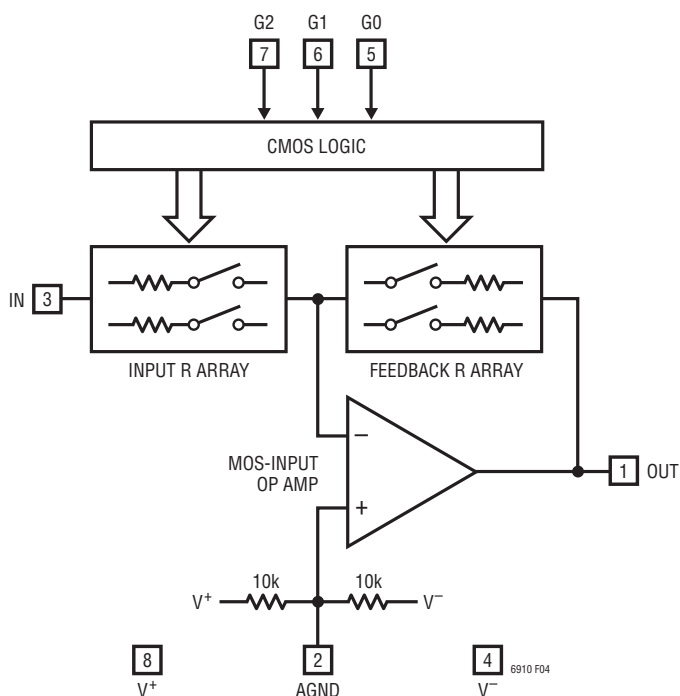
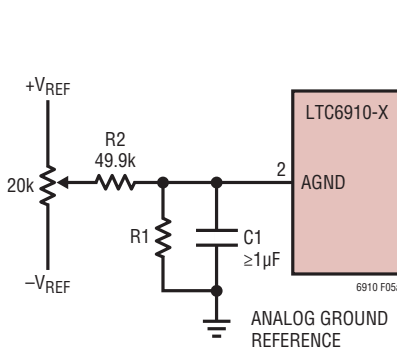

Figure 4. Block Diagram
Figure 5a. Offset Nulling (Dual Supplies)
**AGND (Pin 2):** Analog Ground. The AGND pin is at the midpoint of an internal resistive voltage divider, developing a potential halfway between the  $V^+$  and  $V^-$  pins, with an equivalent series resistance to the pin of nominally 5k $\Omega$  (Figure 4). AGND is also the noninverting input of the internal op amp, which makes it the ground reference voltage for the IN and OUT pins. Because of this, very “clean” grounding is important, including an analog ground plane surrounding the package.
**IN (Pin 3):** Analog Input. The input signal to the amplifier in the LTC6910-X is the voltage difference between the IN and AGND pins. The IN pin connects internally to a digitally controlled resistance whose other end is a current summing point at the same potential as the AGND pin (Figure 4). At unity gain (digital input 001), the value of this input resistance is approximately 10k $\Omega$  and the IN voltage range is rail-to-rail ( $V^+$  to  $V^-$ ). At gain settings above unity (digital input 010 or higher), the input resistance falls. Also, the linear input voltage range falls in inverse proportion to gain. (The higher gains are designed to boost lower level signals with good noise performance.) Tables 1, 2, and 3 summarize this behavior. In the “zero” gain state (digital input 000), analog switches disconnect the IN pin internally and this pin presents a very high
The LTC6910 family are small outline, wideband inverting DC amplifiers whose voltage gain is digitally programmable. Each delivers a choice of eight voltage gains, controlled by the 3-bit digital inputs to the G pins, which accept CMOS logic levels. The gain code is always monotonic; an increase in the 3-bit binary number (G2 G1 G0) causes an increase in the gain. Table 1, Table 2 and Table 3 list the nominal voltage gains for LTC6910-1, LTC6910-2 and LTC6910-3 respectively. Gain control within each amplifier occurs by switching resistors from a matched array in or out of a closed-loop op amp circuit using MOS analog switches (Figure 4). Bandwidth depends on gain setting. Curves in the Typical Performance Characteristics section show measured frequency responses.
Settling time in the CMOS gain-control logic is typically several nanoseconds and faster than the analog signal path. When amplifier gain changes, the limiting timing is analog, not digital, because the effects of digital input changes are observed only through the analog output (Figure 4). The LTC6910-X’s logic is static (not latched) and therefore lacks bus timing requirements. However, as with any programmable-gain amplifier, each gain change causes an output transient as the amplifier’s output
The electrical tables list DC offset (error) voltage at the inputs of the internal op-amp in Figure 4,  $V_{OS(OA)}$ , which is the source of DC offsets in the LTC6910-X. The tables also show the resulting, gain dependent offset voltage referred to the IN pin,  $V_{OS(IN)}$ . These two measures are related through the feedback/input resistor ratio, which equals the nominal gain-magnitude setting, G:
Offset voltages at any gain setting can be inferred from this relationship. For example, an internal offset  $V_{OS(OA)}$  of 1mV will appear referred to the IN pin as 2mV at a gain setting G of 1, or 1.5mV at a gain setting of 2. At high gains,  $V_{OS(IN)}$  approaches  $V_{OS(OA)}$ . (Offset voltage can be of either polarity; it is a statistical parameter centered on zero.) The MOS input circuitry of the internal op amp in Figure 4 draws negligible input currents (unlike some op amps), so only  $V_{OS(OA)}$  and G affect the overall amplifier’s offset.
Because internal op amp offset voltage  $V_{OS(OA)}$  is gain independent as noted above, offset trimming can be readily added at the AGND pin, which drives the noninverting input of the internal op amp. Such a trim shifts the AGND voltage slightly from the system's analog ground reference, where AGND would otherwise connect directly. This is convenient when a low resistance analog ground potential or analog ground reference exists, for the return of a voltage divider as in Figure 5a. When adjusted for zero DC output voltage when the LTC6910-X has zero DC input voltage, this DC nulling will hold at other gain settings also.
Figure 5a shows the basic arrangement for dual-supply applications. A voltage divider (R1 and R2) scales external reference voltages  $+V_{REF}$  and  $-V_{REF}$  to a range equaling or slightly exceeding the approximately  $\pm 10\text{mV}$  op amp offset-voltage range. Resistor R1 is chosen to drop the  $\pm 10\text{mV}$  maximum trim voltage when the potentiometer is set to either end. Thus if  $V_{REF}$  is 5V, R1 should be about  $100\Omega$ . Note also that the two internal 10k resistors in Figure 4 tend to bias AGND toward the mid-point of  $V^+$  and  $V^-$ . The external voltage divider will swamp this effect if R1 is much less than  $5\text{k}\Omega$ . When considering the effect of the internal 10k resistors, note that they form a Thévenin equivalent of  $5\text{k}$  in series with an open-circuit voltage at the halfway potential  $(V^+ + V^-)/2$ . (Although
With this trim technique in place, the remaining DC offset sources are drifts with temperature (typically  $6\mu\text{V}/^\circ\text{C}$  referred to  $V_{OS(OA)}$ ), shifts in the LTC6910-X's supply voltage divided by the PSRR factors, supply voltage shifts coupling through the two 10k internal resistors of Figure 4, and of course any shifts in the reference voltages that supply  $+V_{REF}$  and  $-V_{REF}$  in Figure 5a.
At a gain setting of 10V/V in an LTC6910-1 (digital input 100) and a 250ksps sampling rate in the LTC1864, a 10kHz input signal at 60% of full scale shows a THD of -87dB at the digital output of the ADC. 100kHz input signals under the same conditions produce THD values around -75dB. Noise effects (both random and quantization) in the ADC are divided by the gain of the amplifier when referred to  $V_{IN}$  in Figure 4. Because of this, the circuit can acquire a signal that is 40dB down from full scale of 5VP-P with an SNR of over 70dB. Such performance from an ADC alone (70 + 40 = 110dB of useful dynamic range at 250ksps), if available, would be far more expensive.